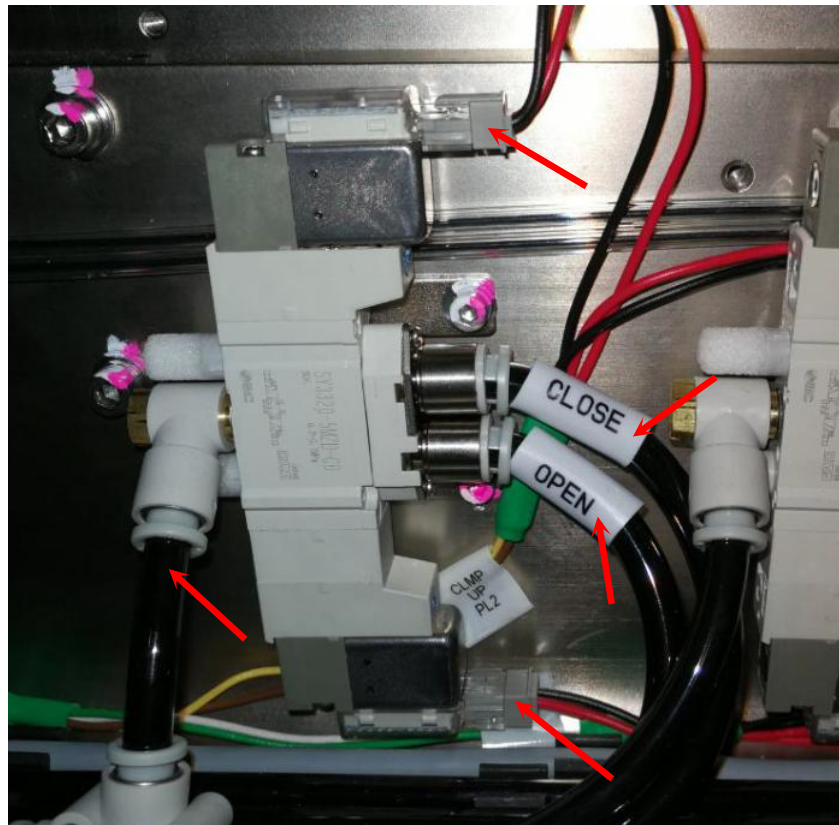

Figure 3 Adj Rail Clamper Solenoid Cable & Tubing Removal
6. Disconnect 2 x Solenoid Valve Cable & 3 x Tubing as below Figure 3